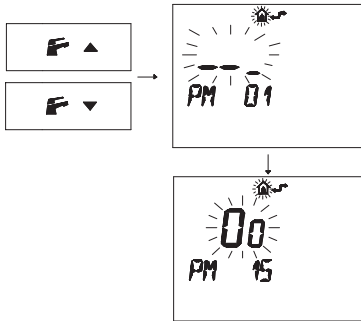

Fig. 7.16
- Press buttons or to display the "PM15" program that enables the external probe (Fig. 7.16)